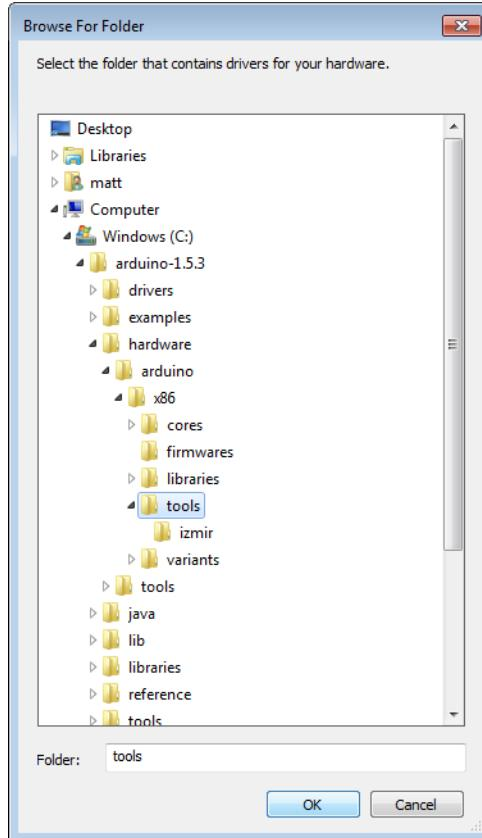

Figure E-4. Finding the driver in the Arduino folder
7. If you installed your Arduino IDE folder in the root of your hard drive, navigate to C:\arduino-1.5.3\hardware\arduino\x86\tools and click OK. (Figure E-4). Otherwise, you'll have to find where you installed the Arduino folder.